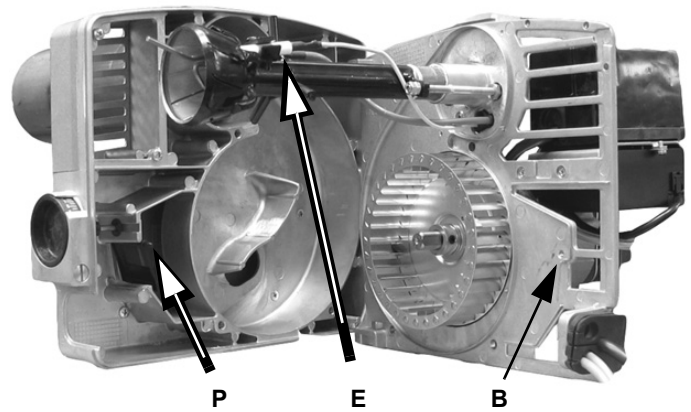

Fig. 20
- 2 hang the plate in one of the ways showed on Fig. 20 figure in order to make maintenance operations easier.